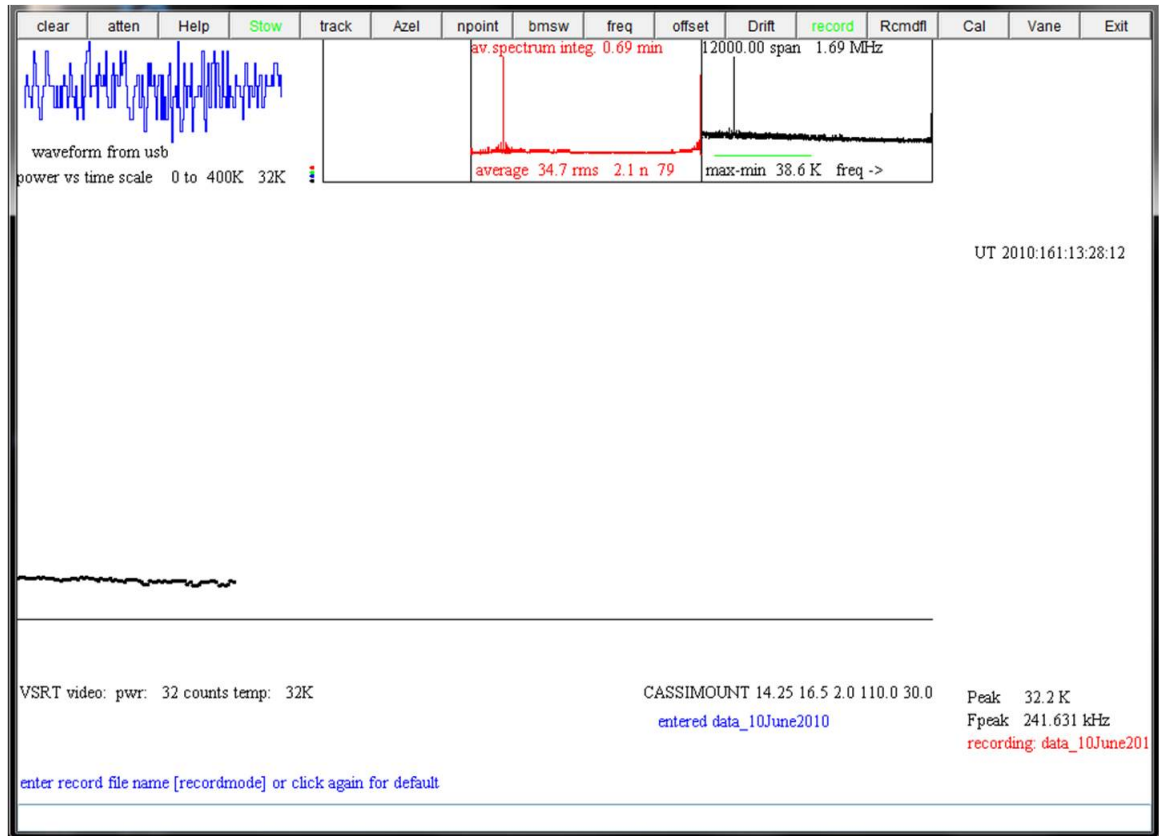

FIG. 4: Screen shot of a VSRT interferometer observation.
4. On the computer, click on the SRT/vsrt icon (with an image of a radio telescope). (like that shown in Figure 3. After a few seconds a display window like that shown in Figure 4 should appear. In the window, note the pair of similar looking panels side-by-side at the top. These two panels each show a spectrum and in each panel you should see a single sharp peak. This peak is the beat signal (discussed above). The
- (a) The first number indicates the antenna temperature (in Kelvin) of the beat signal, which is proportional to the detected power and hence a measure of the desired response of the VSRT interferometer. In Figure 4 the measured antenna temperature is 34.7 K.
- (b) The second number gives the rms in the average spectrum. In Figure 4 the rms is 2.1 K.
- (c) The third number, “n,” indicates the number of detections (or “integrations”) used in the average. In Figure 4, $n = 79$.
- (d) The uncertainty in the measured antenna temperature, which is “the uncertainty in the mean,” is the rms divided by the square root of n . In Figure 4, then, the measured antenna temperature is 34.7 ± 0.24 K.